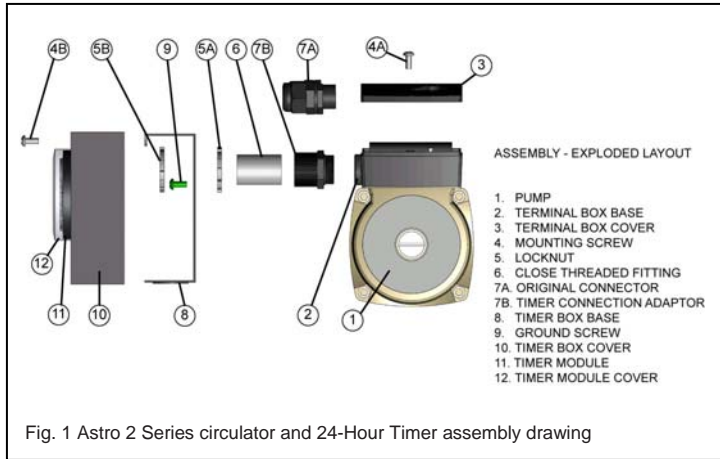
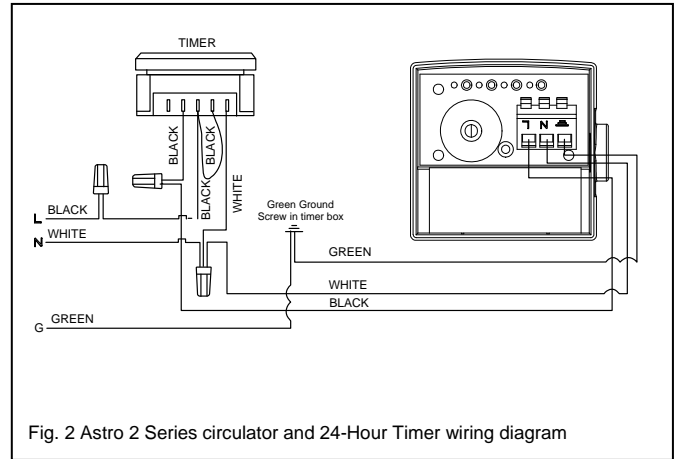

Fig. 1 Astro 2 Series circulator and 24-Hour Timer assembly drawing
Fig. 2 Astro 2 Series circulator and 24-Hour Timer wiring diagram
**Note:** Numerical component designations included in Steps a through i refer to circulator and timer components shown in Fig. 1.
- Unfasten the mounting screw (4A) and remove the terminal box cover (3).
- Unfasten the mounting screw (4B) on the timer box cover (10) and detach it from the base (8).
- Remove the original conductor (7A) from the circulator terminal box (2)
- Fasten the connection adaptor (7B) to the circulator terminal box (2)
- Fasten the threaded fitting (6) to the connection adaptor (7B)
- Fasten the lock nut (5A) on the end of the threaded fitting (6) and insert the timer box (8)
- Fasten the lock nut (5B) onto the end of the threaded fitting (6) so the timer box (8) is in between and securely attached.
- Connect timer lead wires (black, white and green) to the terminal box (See Fig. 2 for 24-Hour Timer wiring diagram. See Fig. 3 for 24-Hour timer and Aquastat Control wiring diagram.)
- Re-attach the timer box cover (10) using the mounting screw (4B). Insure that all lead wires are inside the timer assembly.
- Close the terminal box cover (3) by fastening the mounting screw (4A).